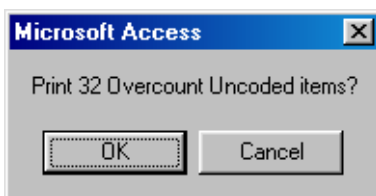

Figure 3-3
1. Click **Print Without Postal Coding** in the PB FIRST main menu. If there are any overcount items, a message appears (Figure 3-3), verifying the number of Overcount Uncoded items to print: